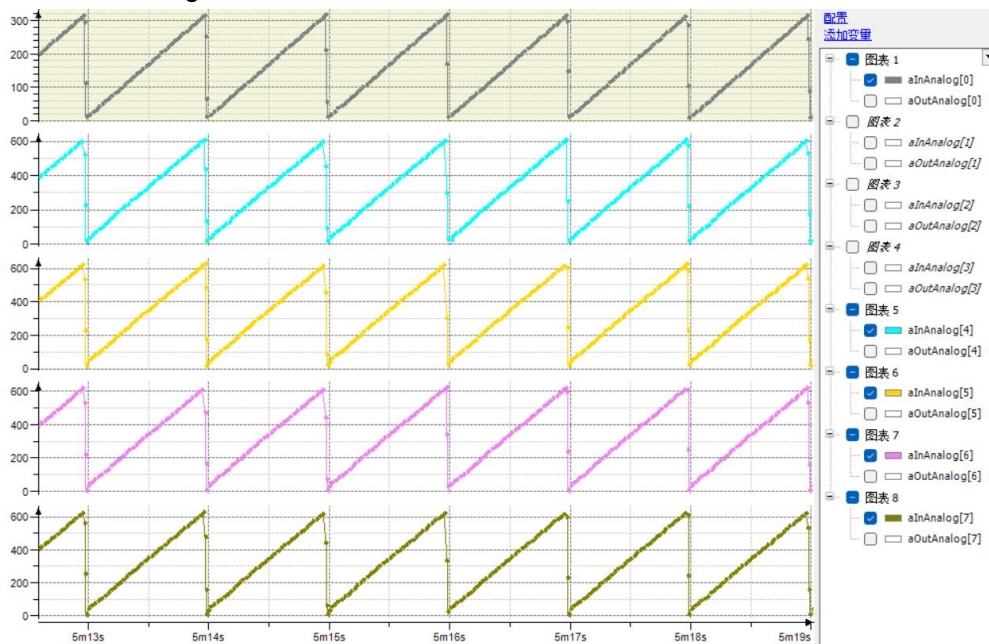

Figure 4-6 Trace tracking
8) Tracing, as shown in Figure 4-6.